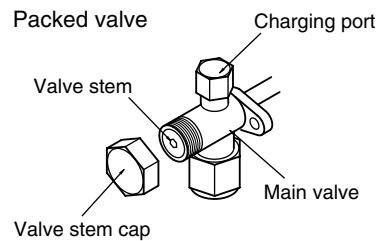

Fig. 7-8
- If the packed valve is left for a long time with the valve stem cap removed, refrigerant will leak from the valve. Therefore, do not leave the valve stem cap removed. (Fig.7-8)